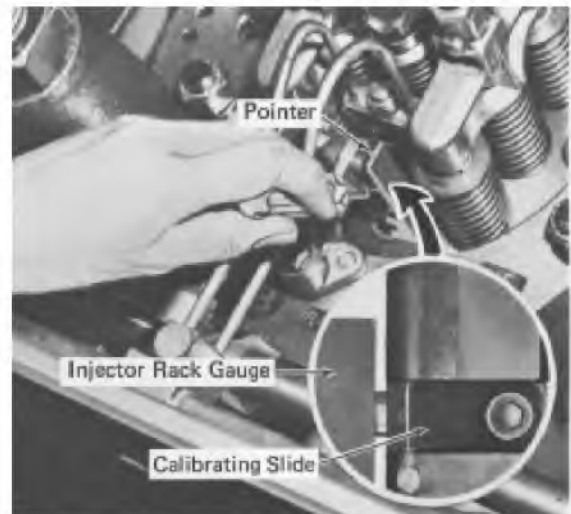

Fig. 11-12 - Injector Rack Gauge Application
4. Place the gauge over the injector rack and hold the gauge firmly against the face of calibrating slide on the injector, Fig. 11-12, and check the gauge pointer. If the pointer is at the short ("S") end of gauge scale, outside of the setting range, the rack is not extending out far enough from the injector. Loosen the locknut on the adjusting link, Fig. 11-9, and turn adjusting nut on link until pointer is at the long ("L") end of the scale; then reverse pointer travel until it is within the scale setting range. Hold the adjusting nut and tighten locknut. The reason for exceeding the setting range when making adjustment is so that, in setting all the racks, the backlash will be taken up in the same direction.